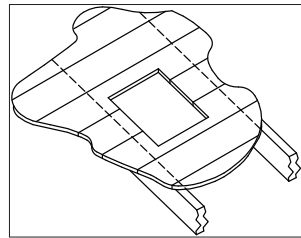

Figure 19
5. Remove shingles or other roof covering as necessary to cut the rectangular hole for the Support Box. Cut the hole 1/8" larger than the dimensions of the Support Box. (**Figure 19**). The rectangular hole should be centered on the small hole which you drilled through the ceiling to mark the location. Again, verify that you are not cutting through rafters or framing members.